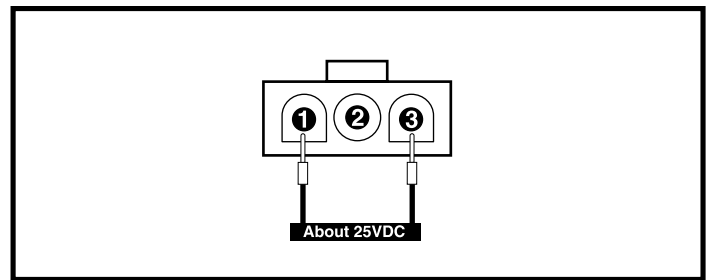

Figure 17. Connector 9a
13. Measure voltage across pin 1 and pin 3 of connector 9a. See figure 17.